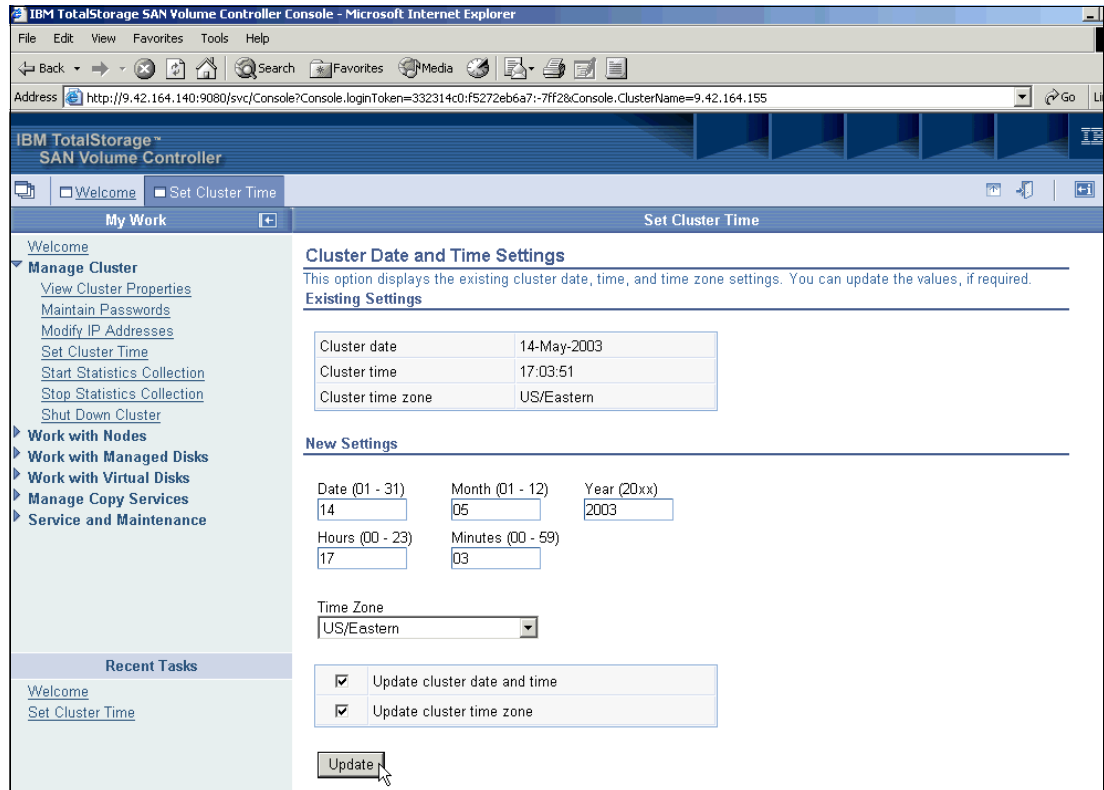

Figure 9-11 Cluster Date and Time Settings panel
2. The Cluster Date and Time Settings panel (Figure 9-11) opens. At the top of panel, you see the current settings. If necessary, make adjustments and ensure that the **Update cluster data and time** and **Update cluster time zone** check boxes are selected. Click **Update**.